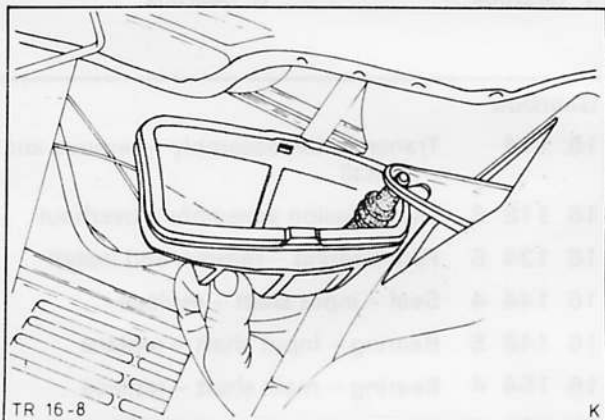

Fig. 9. Disconnect clutch cable from release lever
3. Pull off release lever gaiter. Detach clutch cable from release lever, pulling cable downwards by hand in front of the release lever, holding it with pliers and disconnecting cable end, Fig. 9.